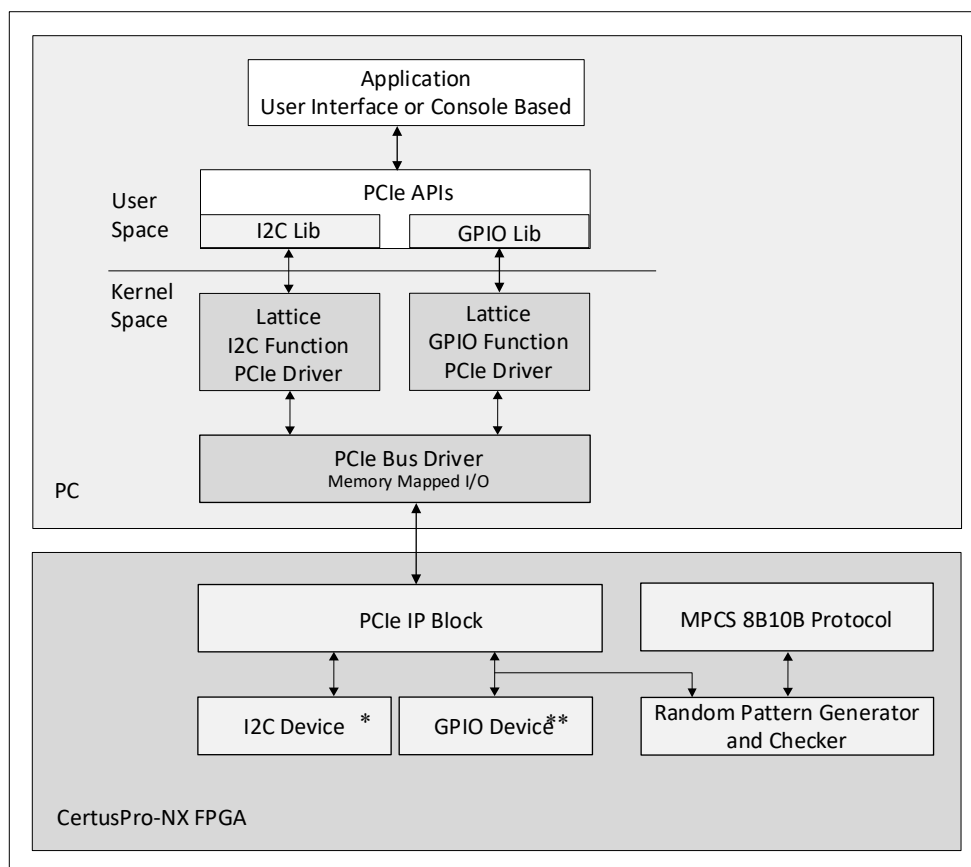

Figure 3.1. Relationship between Hardware and Software Components
The demo runs on a standard x64 PC and accesses the FPGA board installed in a PCIe slot. Figure 3.1 shows the relationship between the hardware and software components of the demo. The PCIe IP present in the Lattice FPGA occupying the Quad 0 Channel 0 acts as a PCIe endpoint occupying certain ranges of PCI memory space. The TSE protocol occupies Quad 0 Channel 2 and currently consist of a random pattern generator and checker. The Quad 0 Channel 2 used in the CertusPro-NX Versa Evaluation Board is connected to the PCIe Goldfinger. Therefore, a serial loopback from TX to RX is used in this demo to showcase the data transmission for TSE protocol. When the PC boots, the BIOS and operating system (OS) probe the PCIe and PCI buses and detect the devices present on the buses and assign them ranges in the PCI memory space. The PCI memory space is mapped into the PC memory space by the BIOS. After the device driver is installed, the application software can read/write from/to the PCIe device memory (Embedded block RAM (EBR)). Currently the design allows the GPIO function within the PCIe to trigger the start of random pattern generator and checker within the TSE protocol. Therefore, the application software can write to PCIe device memory, which triggers the start of the random pattern generator and checker within the TSE protocol. The application software can also read from the PCIe configuration space registers. In the Mixed Mode demo, two separate PCIe functions are implemented within a single endpoint.